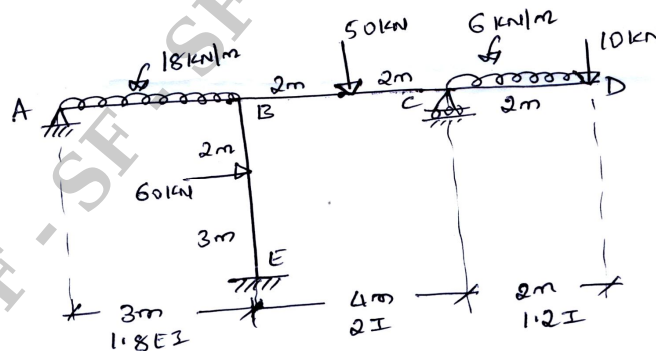

Fig.Q10
- 10 Analyze the frame shown in Fig.Q10 by direct stiffness method.